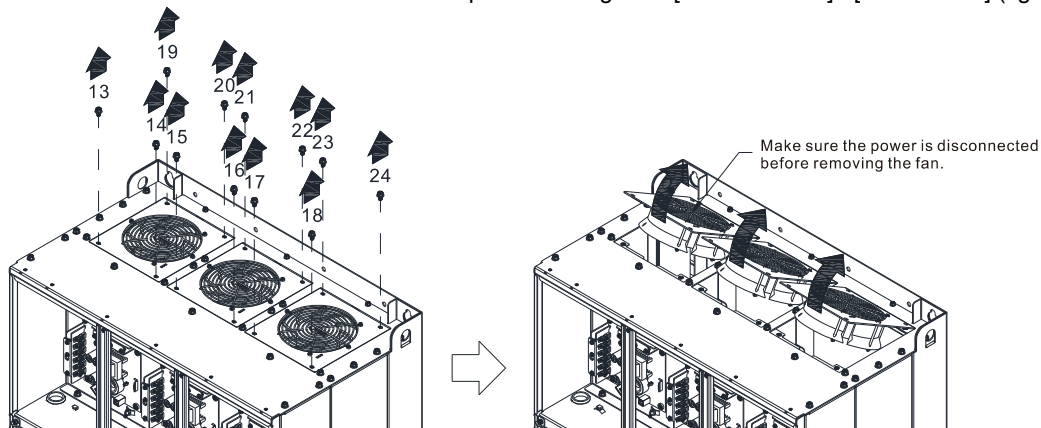

Figure 4
4. Loosen the screw 13-18 and remove the fan. Screw torque: 35-45 kg-cm / [30.3-39 lb-in.] / [2.9-3.8 Nm] (figure 4)